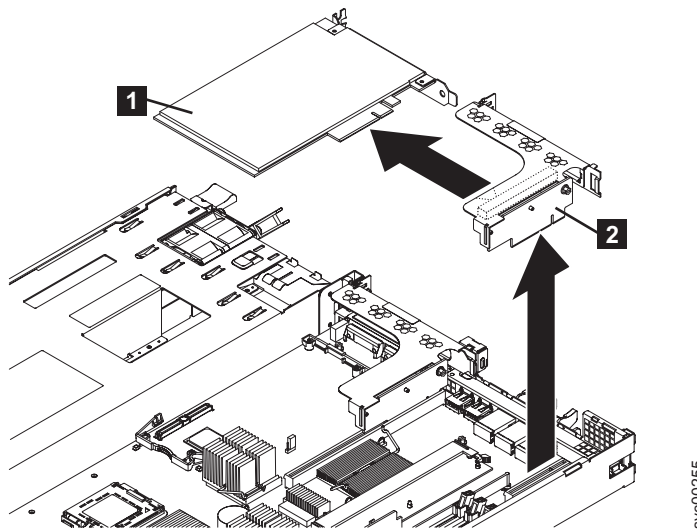

Figure 177. Removing the riser-card assembly from the SAN Volume Controller 2145-8G4
6. Grasp the riser-card assembly (2 in Figure 177) at the rear edge and lift to remove the riser-card assembly.